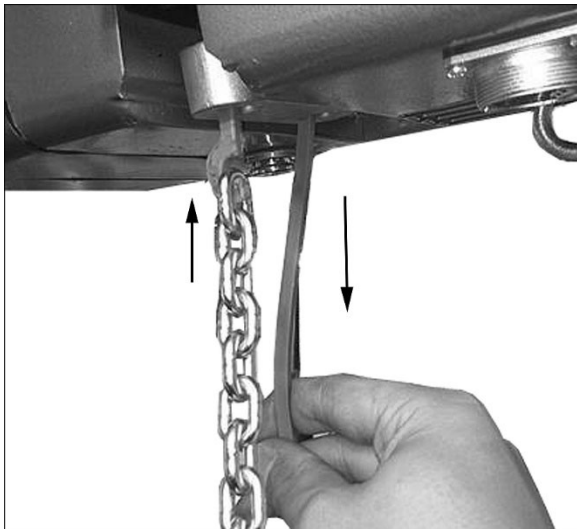

Figure 13-3
7. Connect hook of chain puller to the link on new chain (Figure 13-3), and pull chain through until it engages the sprocket. **Do not let the chain twist or bind as it is being pulled through the hoist.**
7. Connect hook of chain puller to the link on new chain (Figure 13-3) and move chain through until sprockets are engaged.
**CAUTION** The link on the load side end must be a vertical link, as shown in Figure 13-3. If it is a horizontal link, the chain will have a twist in it.